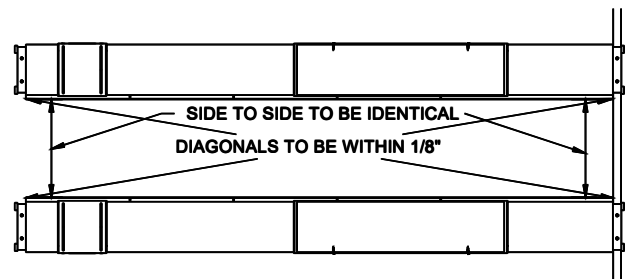

Fig 14 – Final Runway Positioning
- 17) Check the layout of the lift in the bay. (**This is the last opportunity to reposition the lift. Take a moment to determine the position of the front column anchors to ensure proper clearance from any crack, edge, or expansion joint. Ensure proper clearance for the lift operator at the Power Unit Controls.**) Adjust the position of the runways so the distance from power side jack rail to idler side jack rail is the same at the front and rear and the diagonal measurements from the front tip of one rail to the rear tip of the opposite rail are within 1/4", Fig 14.
- 48) Recheck the four runway measurements from **Fig 14**.
- 50) After properly shimming column plumb, loosen anchors and add one shim to both of the two inside anchors to lean the column outward slightly. Make sure lower Slide Blocks are in contact with column and torque all anchor bolts to 150 foot-pounds, **Fig 14**.